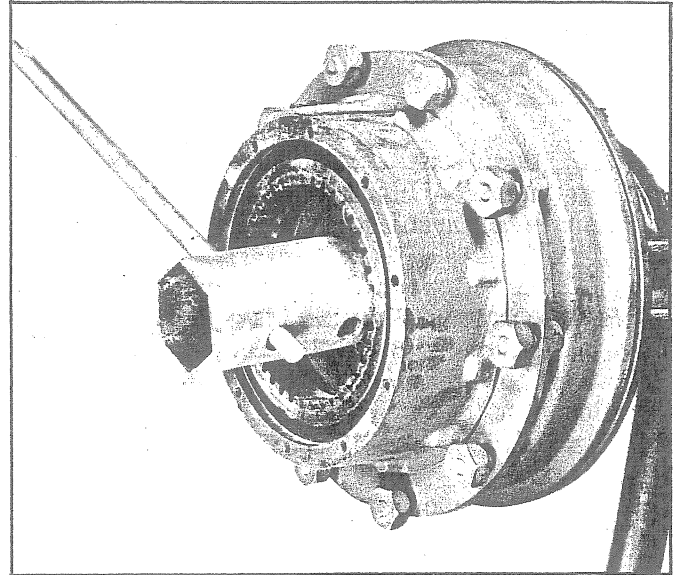

Fig. 101 - Tool Used to Install Spindle Nuts
20. Install flatwasher and inner spindle nut. Tighten inner spindle nut with special tool shown in Fig. 101, while rotating wheel hub, until there is a slight drag.